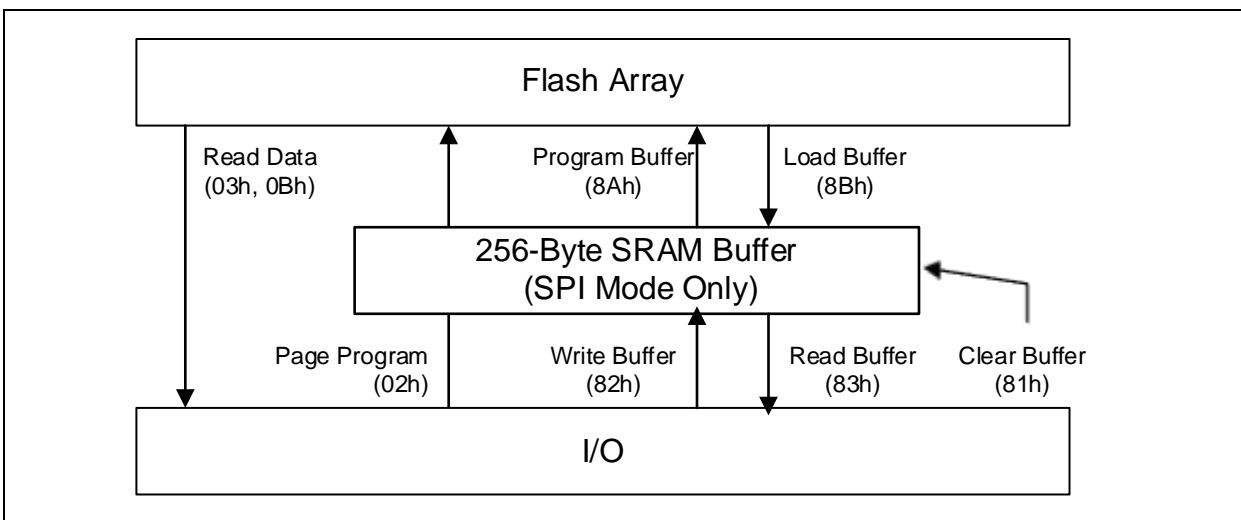

Figure 3. Serial Flash Buffer Mode
The W25Q80PW supports Quad Peripheral Interface (QPI) operations only when the device is switched from Standard/Dual/Quad SPI mode to QPI mode using the “Enter QPI (38h)” instruction. The typical SPI protocol requires that the byte-long instruction code being shifted into the device only via DI pin in eight serial clocks. The QPI mode utilizes all four IO pins to input the instruction code, thus only two serial clocks are required. This can significantly reduce the SPI instruction overhead and improve system performance in an XIP environment. Standard/Dual/Quad SPI mode and QPI mode are exclusive. Only one mode can be active at any given time. “Enter QPI (38h)” and “Exit QPI (FFh)” instructions are used to switch between these two modes. Upon power-up or after a software reset using “Reset (99h)” instruction, the default state of the device is Standard/Dual/Quad SPI mode. To enable QPI mode, the non-volatile Quad Enable bit (QE) in Status Register-2 is required to be set. When using QPI instructions, the DI and DO pins become bidirectional IO0 and IO1, and the /WP and /HOLD pins become IO2 and IO3 respectively. See Figure 3 for the device operation modes.
Using the Write Buffer instruction, data is first shifted into the SRAM from the SPI bus. When the instruction sequence has been completed, the entire 256-bytes is transferred to the Program Buffer. The Program Buffer supports the array during the Erase/Write cycle (tWP), freeing the SRAM to accept new data. This double-buffering scheme increases erase/write transfer rates and can eliminate the need for external RAM buffers (Figure 3). The SRAM is fully byte-addressable. Thus, the entire 256-bytes, a single byte, or a sequence of bytes can be read from or written to the SRAM. This allows the SRAM to be used as a temporary work area for read-modify-write operations prior to a sector write.